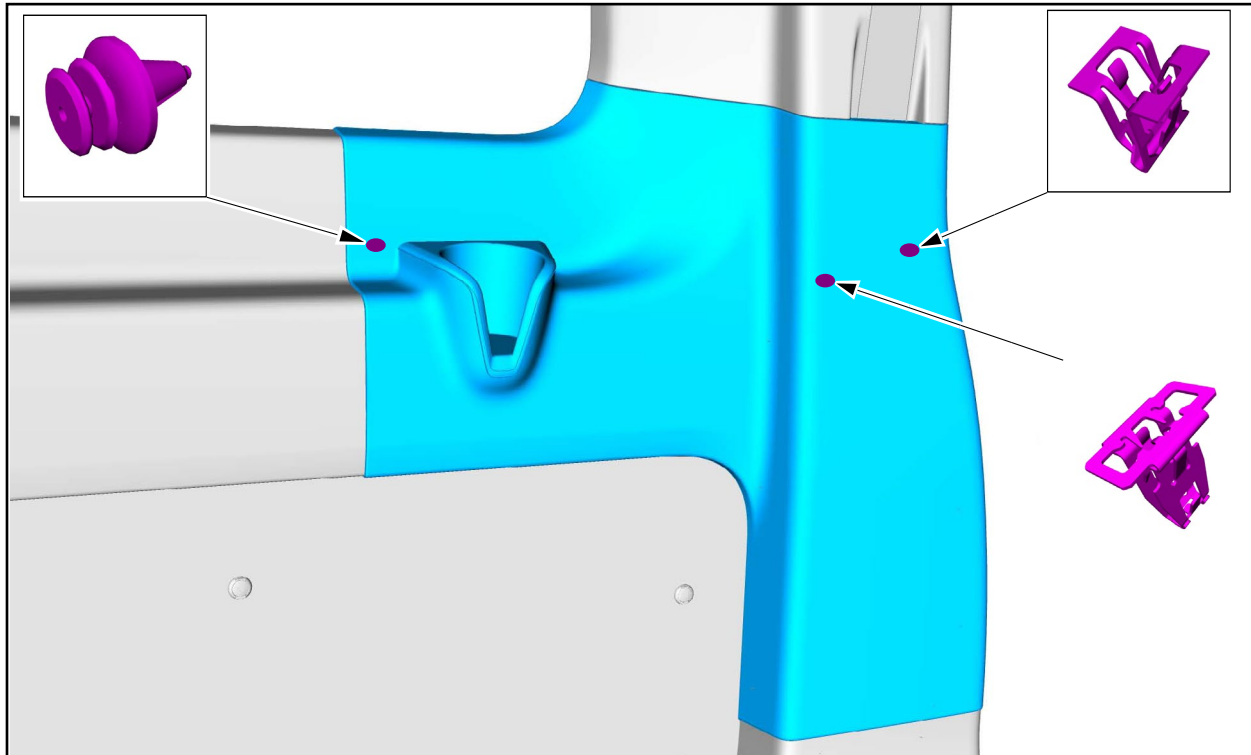

FIGURE 1
1. Release the clips and remove the LH side middle B-pillar trim panel. See Figure 1.